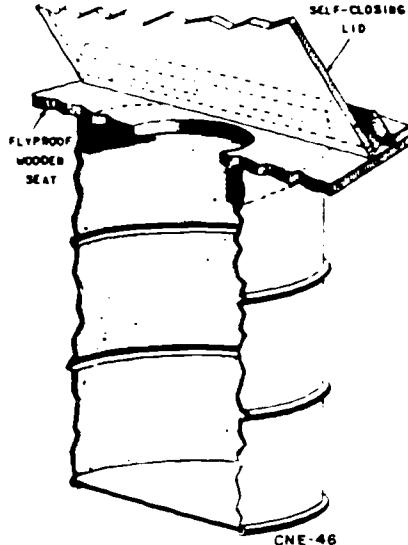

Figure 2-4. Oildrum latrine.
**Oil drum.** The oil drum latrine, similar to that shown in figure 2-4, is considered the ideal type of latrine for use by small USAF units in the field. To construct an oil drum latrine, you remove the top from a 55-gallon oil drum and fix a flyproof seat with a self-closing lid over the top of the drum. Where the water table is low and the area drains rapidly, the bottom of the drum may be perforated and the latrine set into a flyproof soakage pit. This latrine is intended for long time use; the contents are burned daily, and the resulting ashes are buried.